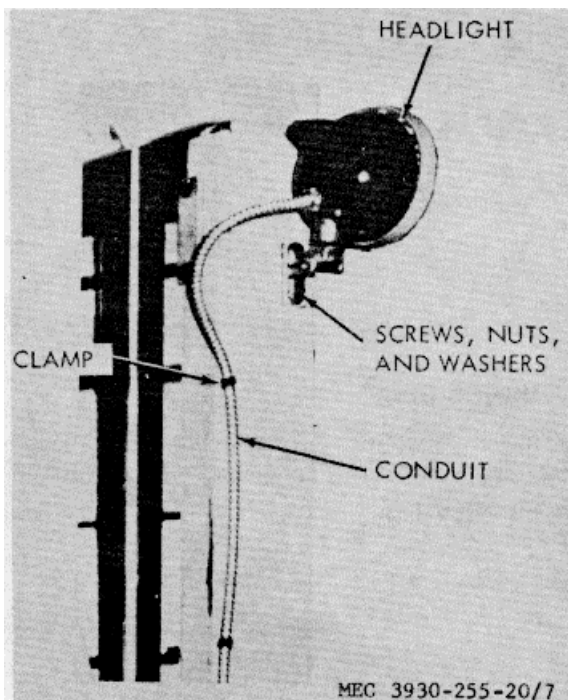

Figure 7. Headlight, installed.
- (1) Remove clamps (fig. 7) holding conduit to outer upright.
- (2) Disconnect two wires at terminals at bottom end of conduit.
- (3) Remove two screws, nuts and washers attaching light to upright and remove light and conduit as an assembly.